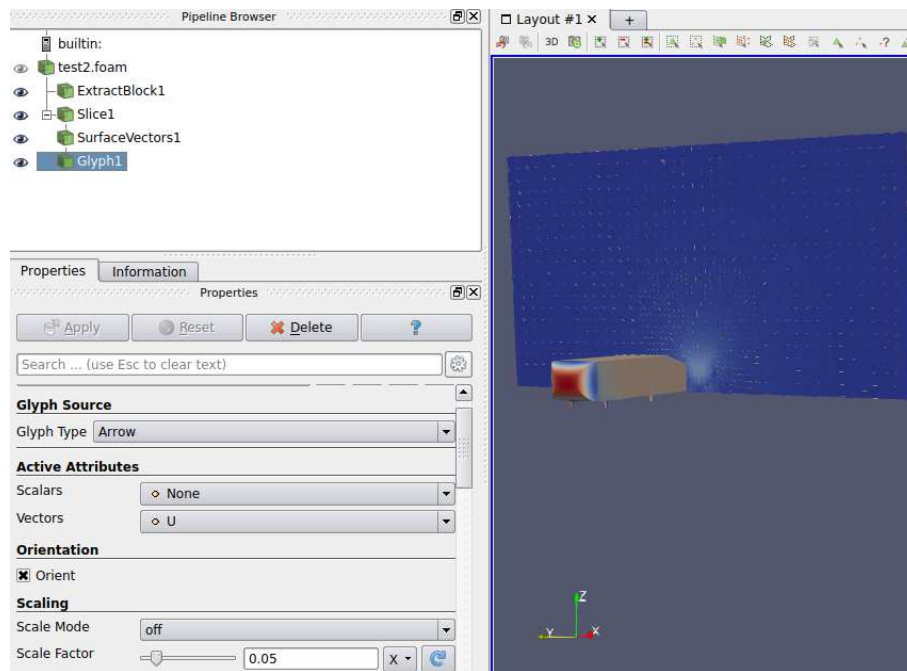

Figure 2.5: Initial 'Glyph' plot.
- 5) Click 'Apply'. The plot should look similar to figure 2.5 below.